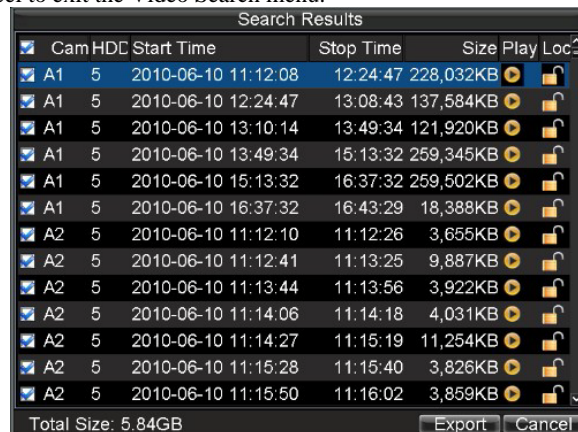

Figure7. Video Search Result List
3. Click the Search button. A list of record files (see Figure 7) matching the search parameters will be displayed.